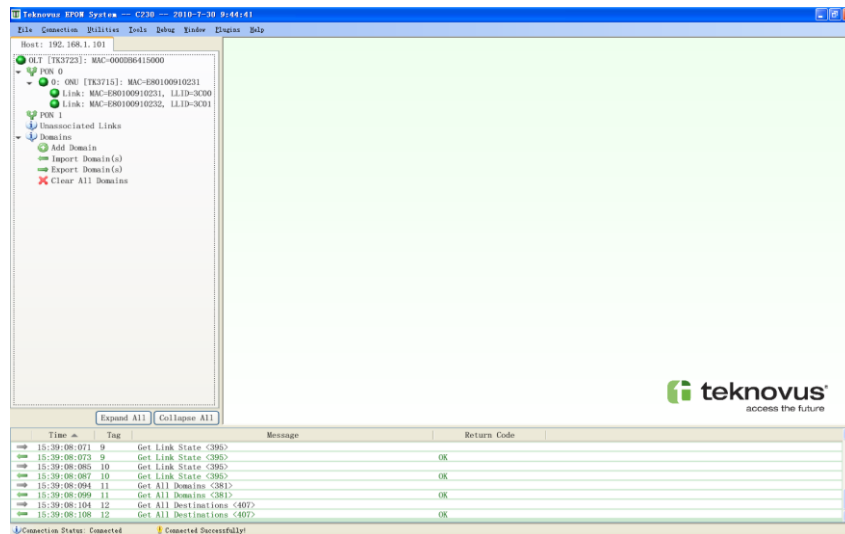

Figure 2-4 Link Display in GUI
- ✓ Click the “▶” on the left side of the ONU icon, then it will display the LLIDs of ONU and a maximum 8 logical links are provided for each ONU. As shown in the Figure 2-4, there are two links below the ONU.